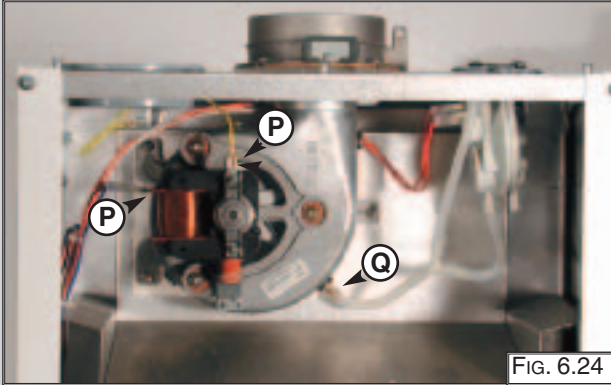

FIG. 6.24
1. Disconnect electrical connections "P" and silicone pipe "Q" (FIG.6.24);